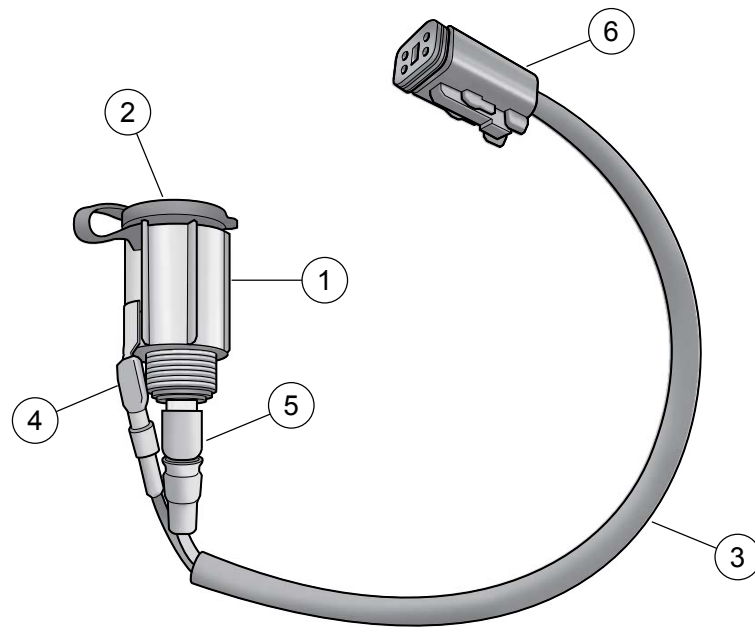

Figure 5. Supplementary 12 Volt Power Outlet
See Figure 5 and Table 1.
- d. See Figure 5. Connect DLC [91B] (6) to [91A].
- b. See Figure 5. Cut off connector (6). Insure to cut as close as possible to the connector.